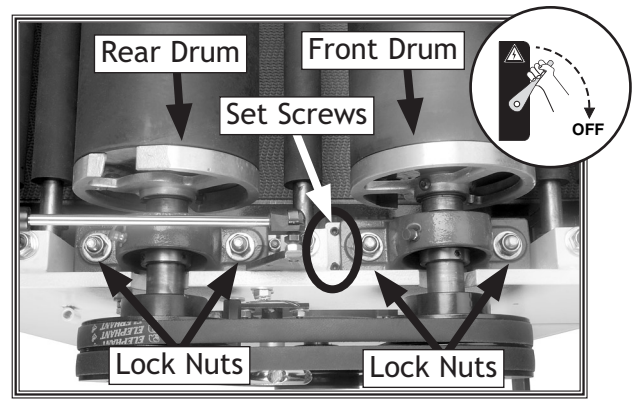

Figure 51. Front and rear drum adjustment locations.
6. Loosen the rear drum pillow bearing lock nuts, shown in **Figure 51**.
11. Loosen the front drum pillow bearing lock nuts (**Figure 51**).
9. Loosen the front drum pillow bearing lock nuts (**Figure 51, Page 39**).
10. Adjust the height of the front drum ends by adjusting the set screws (**Figure 51**) on the pillow bearing up or down until the largest size feeler gauge you can fit between the front drum and 36" long gauge blocks (at both ends) is 0.017"-0.025.